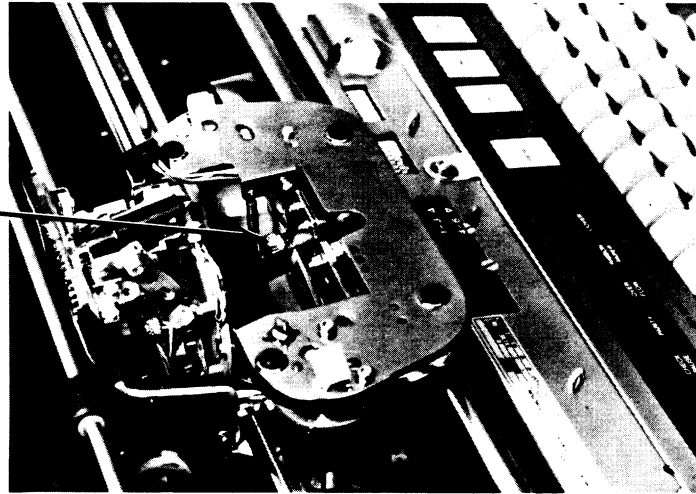

Figure 4-19. RIBBON DECK MOUNTING SCREWS
- 5) Remove the two TORX screws (Fig. 4-19) holding the ribbon deck to the carriage assembly.